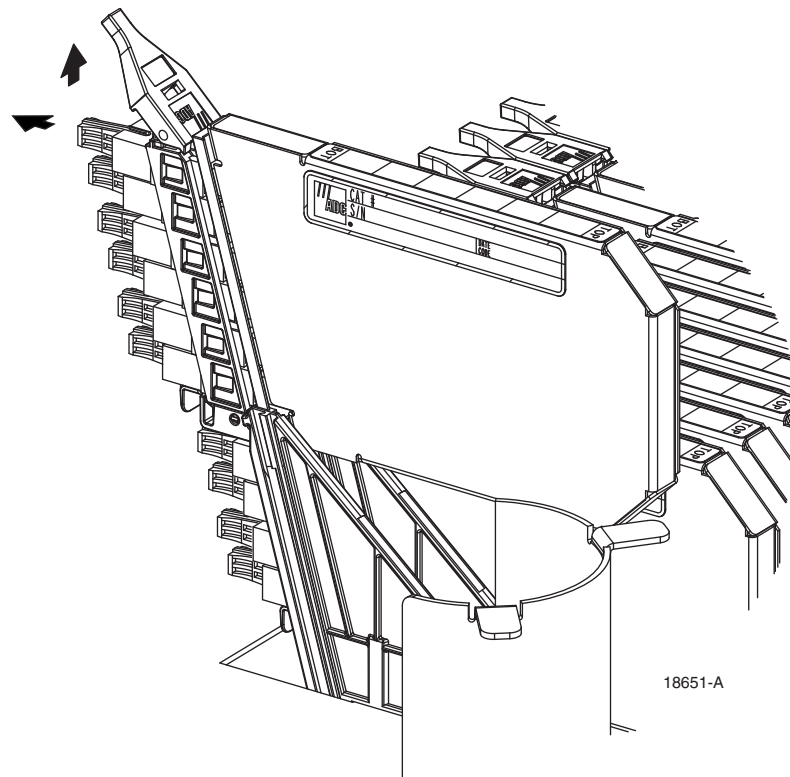

Figure 26. Accessing a Micro-VAM
- 6. To connect an individual cable connector to a micro-VAM, lift up the release tab on top of the micro-VAM and slide the micro-VAM upward (see Figure 26 on page 28). Pull the micro-VAM dust cap straight out and connect the connector to the micro-VAM port.
To access a micro-VAM (Figure 26):